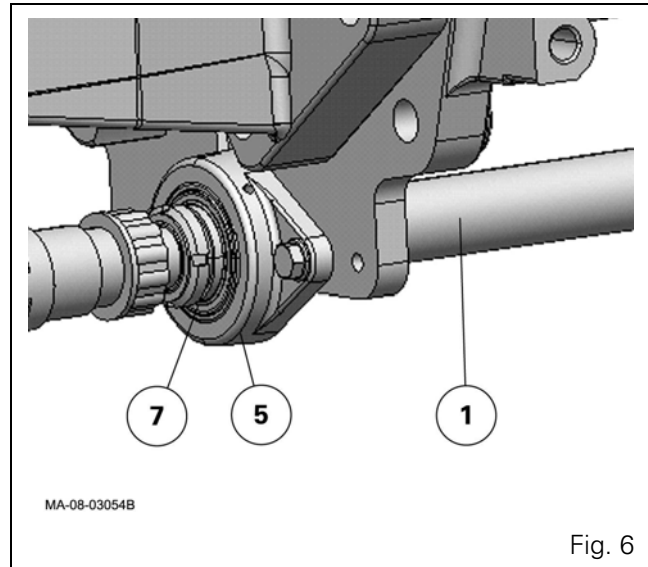
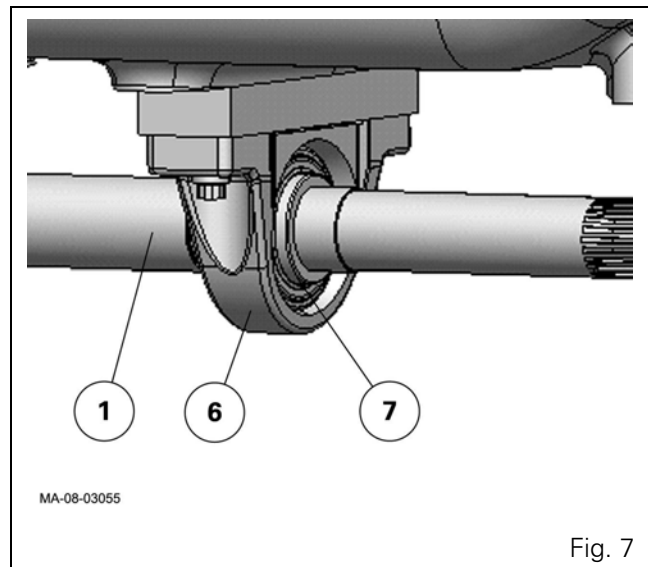

Fig. 6
Fig. 7
11. Remove the guards (2) (2A) and the universal joint shaft assembly. Repeat steps 1 to 5.
12. Remove the screw from the sleeve (3). Slide the sleeve (3) and the dust seals towards the front of the long straight shaft.
13. Remove the central bearings (5)(6), roller bearings (7)(7A) and the long straight shaft (1) (Fig. 6 and Fig. 7).
14. Detach bearings (5)(6) from their roller bearings (7)(7A).